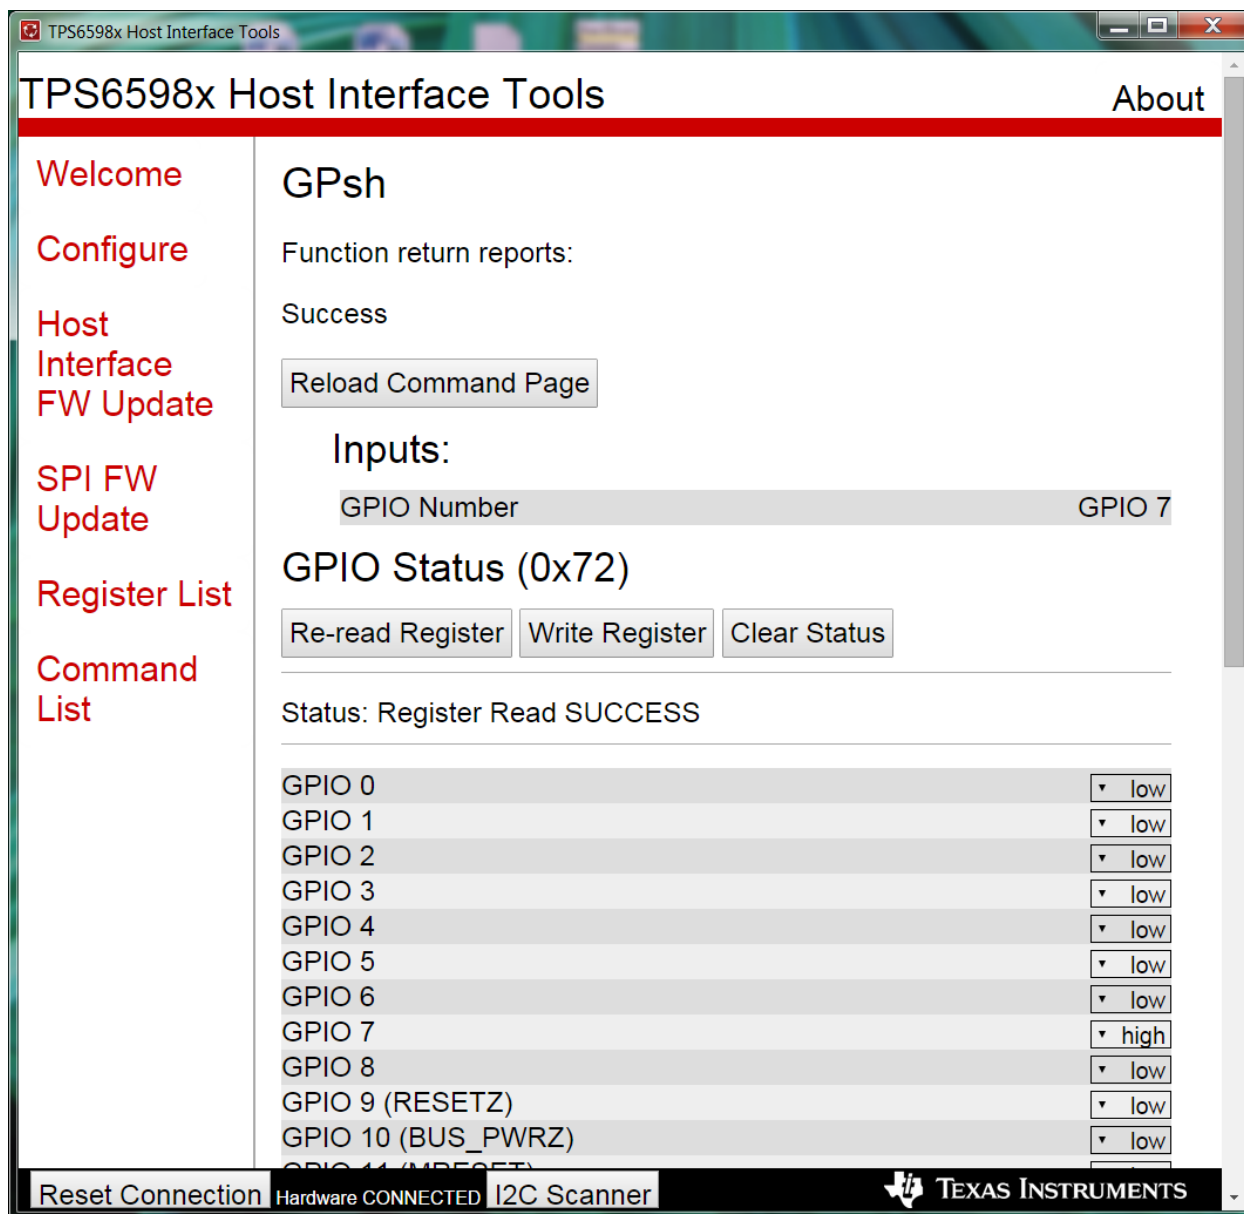

Figure 12: Using 'GPsh' 4CC command
- Then send 'GPsh' 4CC command as shown in Figure 12